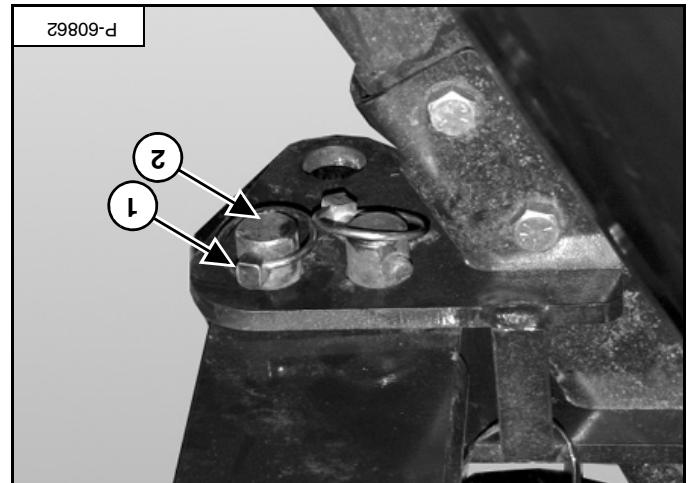

Figure 69
Remove the retaining pin [item 1], then remove the transport pin [item 2] [Figure 69].